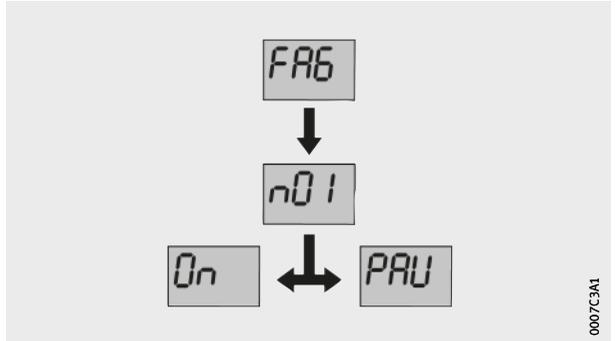

Figure 11
- ▷ The lubrication system is now switched on and is running the operating mode of time control, *Figure 11*.